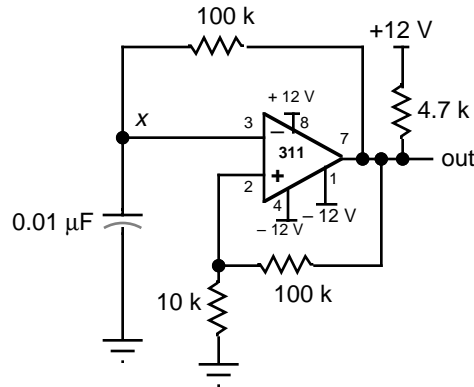

Fig 10.4
The next circuit in Fig. 10.4 shows how to build a square wave generator called a relaxation oscillator. What you do here is remove the input to the Schmitt trigger and reconnect it to one end of a capacitor. The other end of the capacitor is at ground and the capacitor is allowed to charge through a resistor coming from the output of the comparator. After the capacitor charges to the upper trip point, the comparator output goes low to ground. Now the capacitor will
2. Find the oscillation frequencies of the relaxation oscillator and Wien bridge oscillator shown in Figs. 10.4 and 10.5.